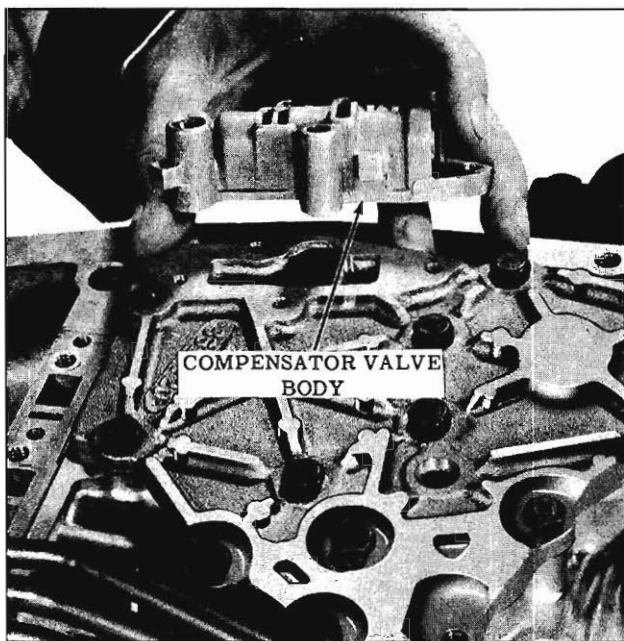

Fig. 6-120 Installing Compensator Body
15. Install compensator body assembly on accumulator cover using three screws and one bolt. (Fig. 6-120) Torque screws 2.5 to 3.5 ft. lbs. and torque bolt 6 to 8 ft. lbs.